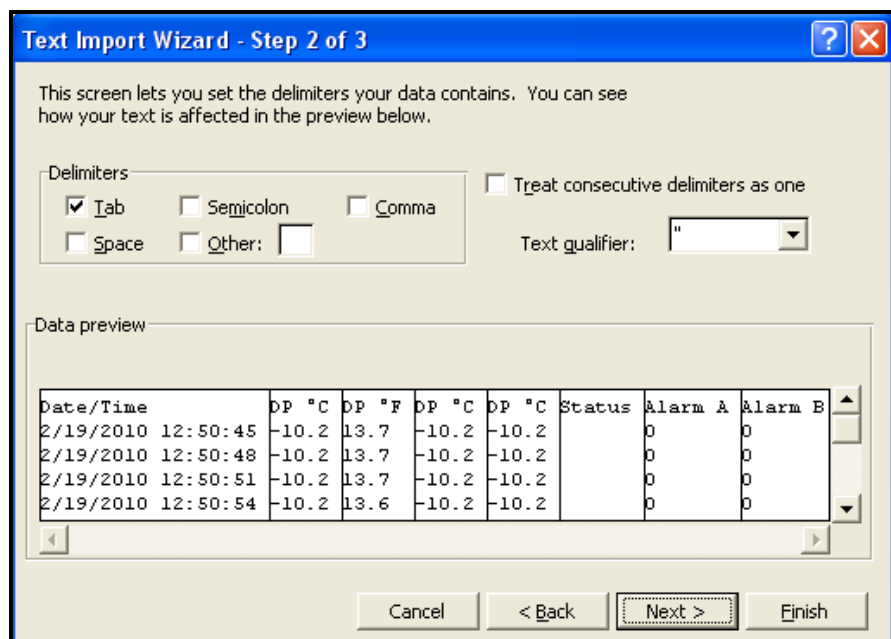

Figure 63: Excel Import Wizard 2
- Follow the directions on the screen, make changes if necessary, and click on Next >. The following screen appears (see Figure 63 on page 104).